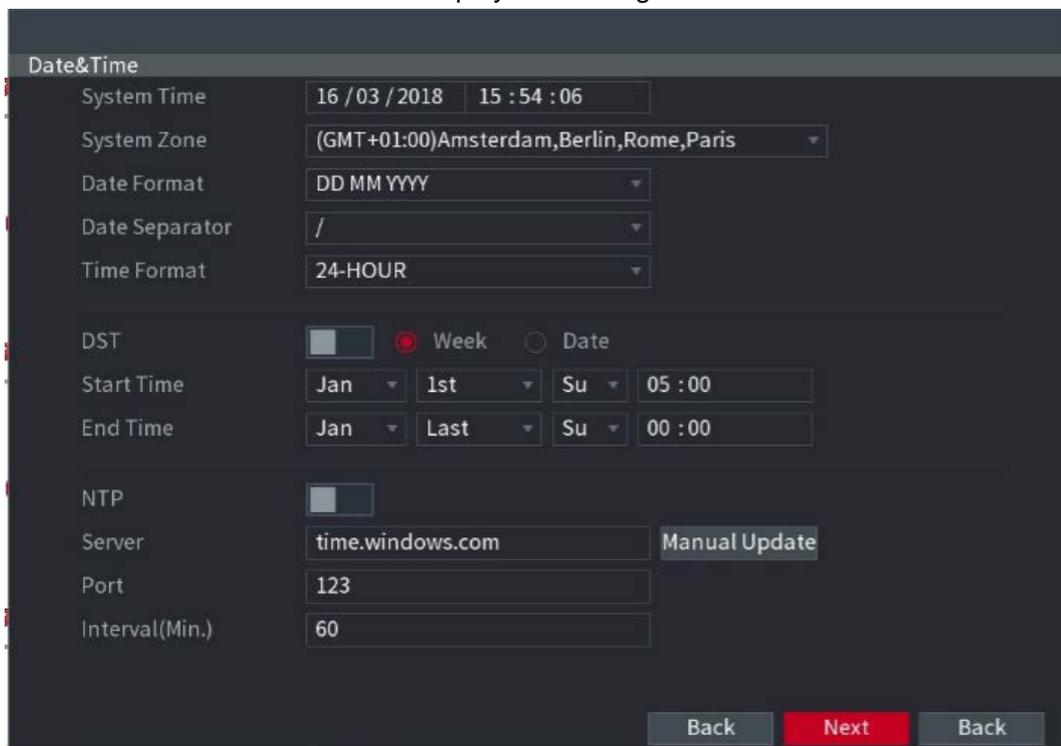

Figure 5-14
Step 1 After you have configured the general settings, on the **General** interface, click **Next**. The **Date & Time** interface is displayed. See Figure 5-14.